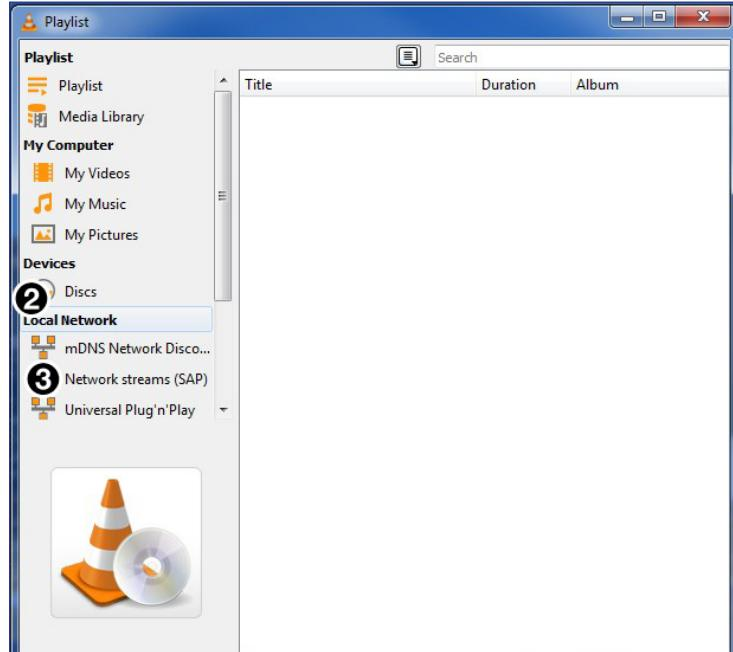

Figure 104. Select Local Network Streams
2. From the left menu column, select **Local Network** (see figure 104, ②).
3. Select **Network streams (SAP)** (③).